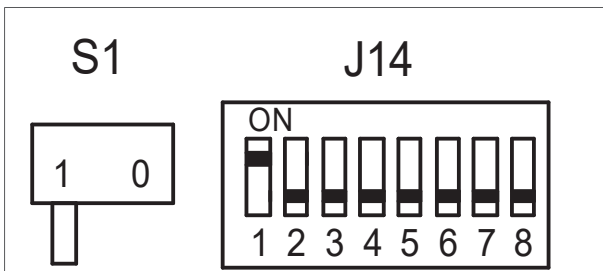

Figure 7 - Positions of the S1 and J14 switches
2. Set the S1 and J14 switches on the control unit as follows (figure 7 / 8):